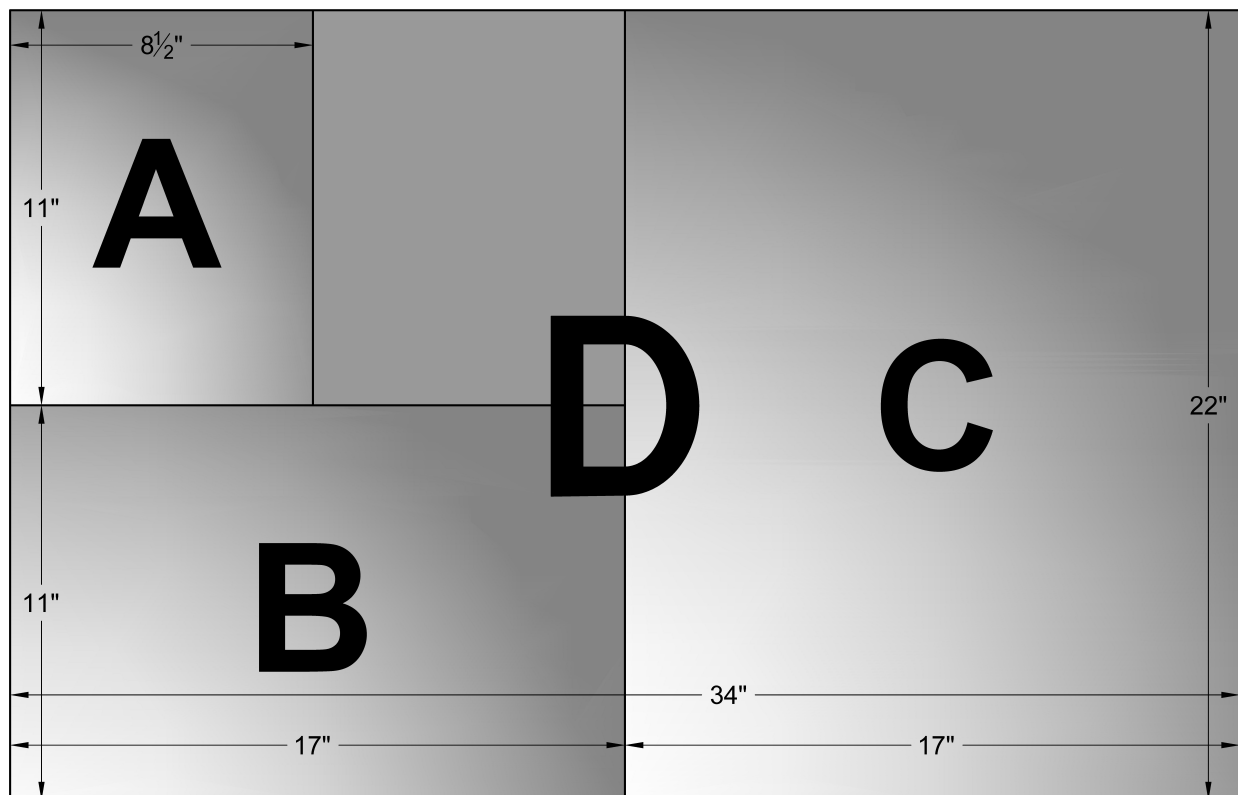

Figure 1-ANSI Drawing Sizes
- 2.2.C. See Figure 1 for representations of all ANSI drawing sizes.